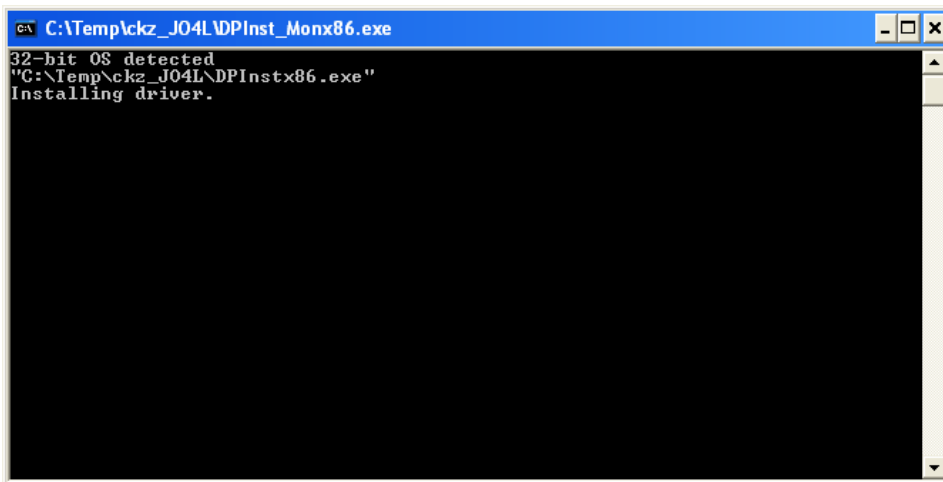

Figure 3 - Terminal window showing installation of the USB-RS485 software. It appears very briefly.
2. Double click on the CDM20600.exe file to install it. This executable file, written by Future Technology Devices International (FTDI), will install itself. As shown in Figure 3 a terminal window will briefly pop up and notify you that it installed properly.